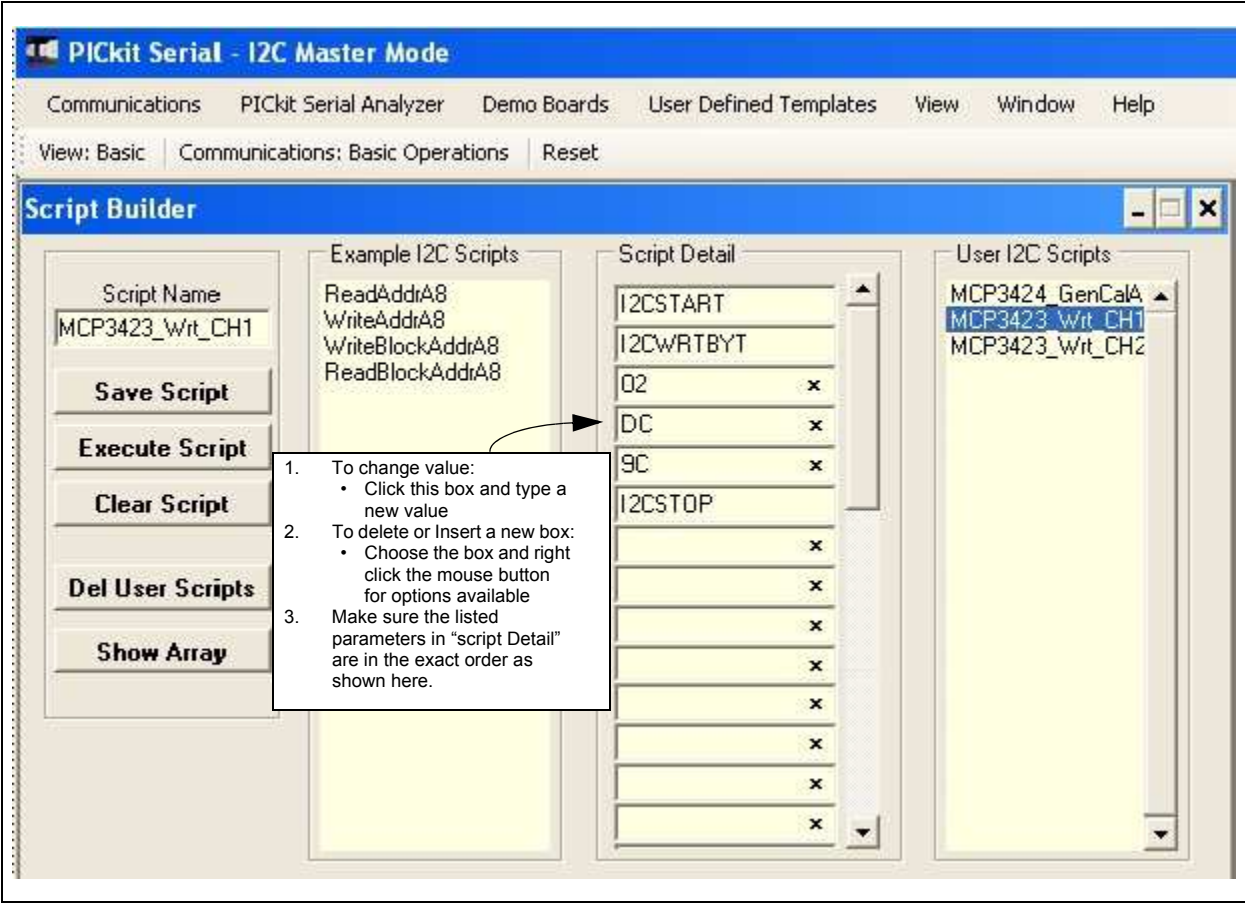

FIGURE 1-10: Modifying parameters in Script Builder window.
4. Keep the parameters in order as shown in Figure 1-10: